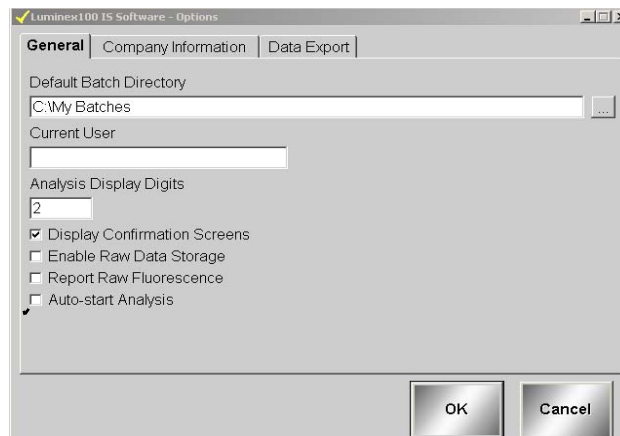

Figure 5-53. Options Dialog Box—Select Auto-start Analysis
1. On the **Tools** menu, click **Options**, then click on the **General** tab. See Figure 5-53.